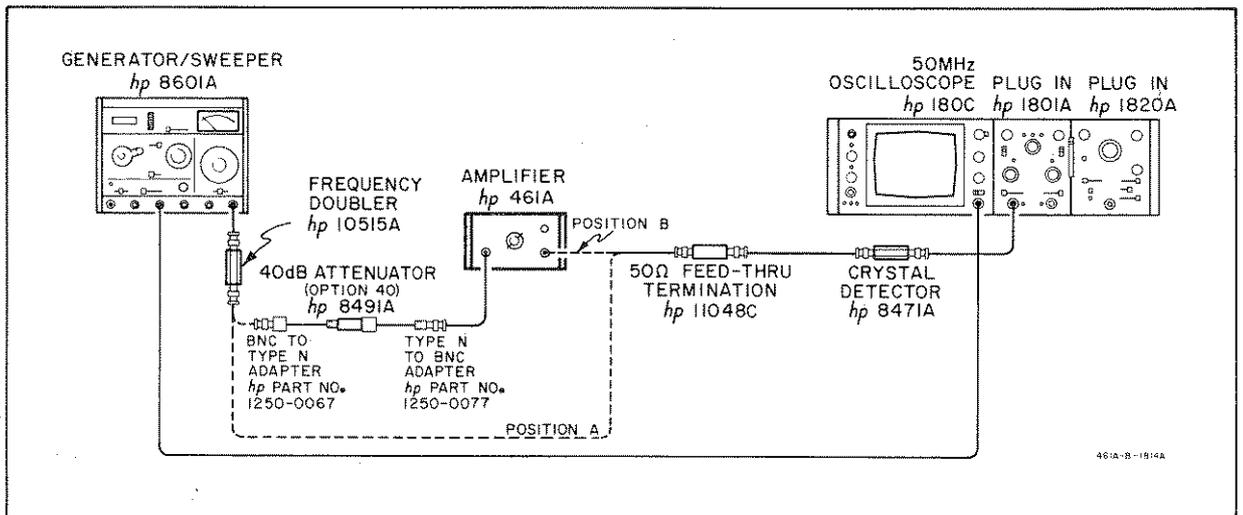

Figure 5-8. Preliminary Frequency Response Calibration Setup
- a. Connect the 461A as shown in Figure 5-8. Set the 8601A Generator/Sweeper as follows:
- c. Connect the circuit as in Figure 5-8, position A. Draw the sweep trace on the face of the oscilloscope.
- d. Connect the circuit as in Figure 5-8, position B. (Slight variations are due to the cut-off frequency of the 461A.) Adjust the coils L2 through L6 as described in paragraph 5-24 making the trace correspond as near as possible to the trace on the oscilloscope. Work back and forth between the coils as there is an intermingled effect between coils.